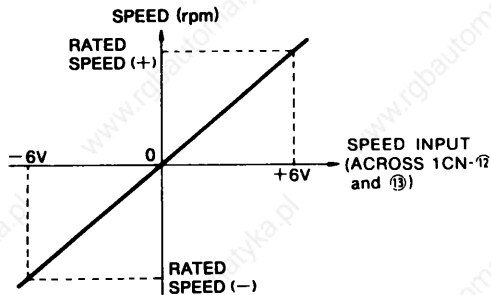

Fig 10 1 Speed Reference Input - SERVOMOTOR Speed Ratio
- (1) Speed reference input-SERVOMOTOR speed ratio (no load) (Fig 10 1)
- (2) Speed Regulation (Fig 10 2)